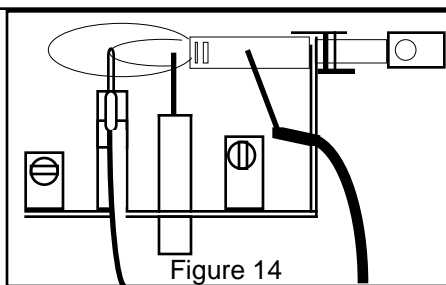

Figure 14
1. There is no adjustment required on C3-A or C3-B Manual Models. The Pilot flame should be steady and soft blue surrounding 1/8 inch of the thermocouple tip as shown in Figure 14.
- Keep the area around the CHILLBUSTER free and clear from debris. From time to time, visually check pilot and burner flames for proper appearance (Figures 14,15 and 16). Normal flame color should be yellow body **surrounded by a hard blue haze**.
- Obstructed Pilot Air Intake Ports result in an improper gas/air mixture and a weak pilot flame. **Weak pilot flame is the NUMBER 1 SERVICE ISSUE RE NUISANCE SHUT-OFF.** Using canned compressed air, pipe cleaner or an artist's brush, clean out the opposing Air Intake Ports located at base of Pilot (where gas supply line attaches to pilot). (Figures 14 and 15)